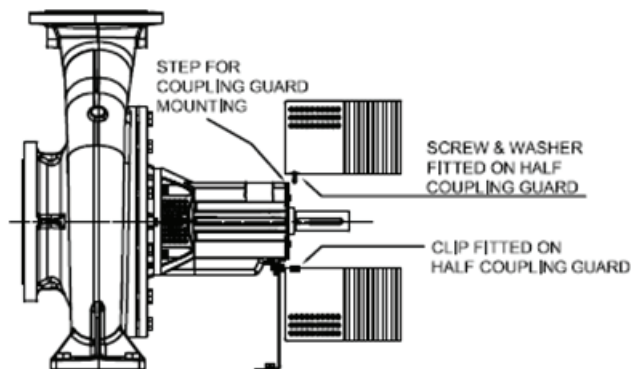

Figure 6 - Coupler Guard Installation
- Fasten coupler guard hardware, see Figure 6.